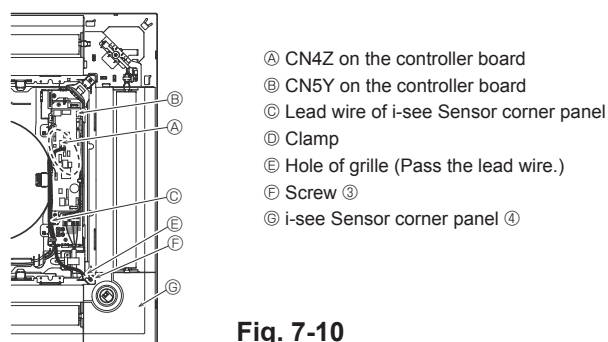

Fig. 7-10
7.4.6. Installation of i-see Sensor corner panel (Fig. 7-10)
- Route the lead wire connector (white, 4 poles and white, 5 poles) of the i-see Sensor corner panel (A) from the side of the electrical box on the main unit and connect to the connector CN4Z and CN5Y on the controller board.